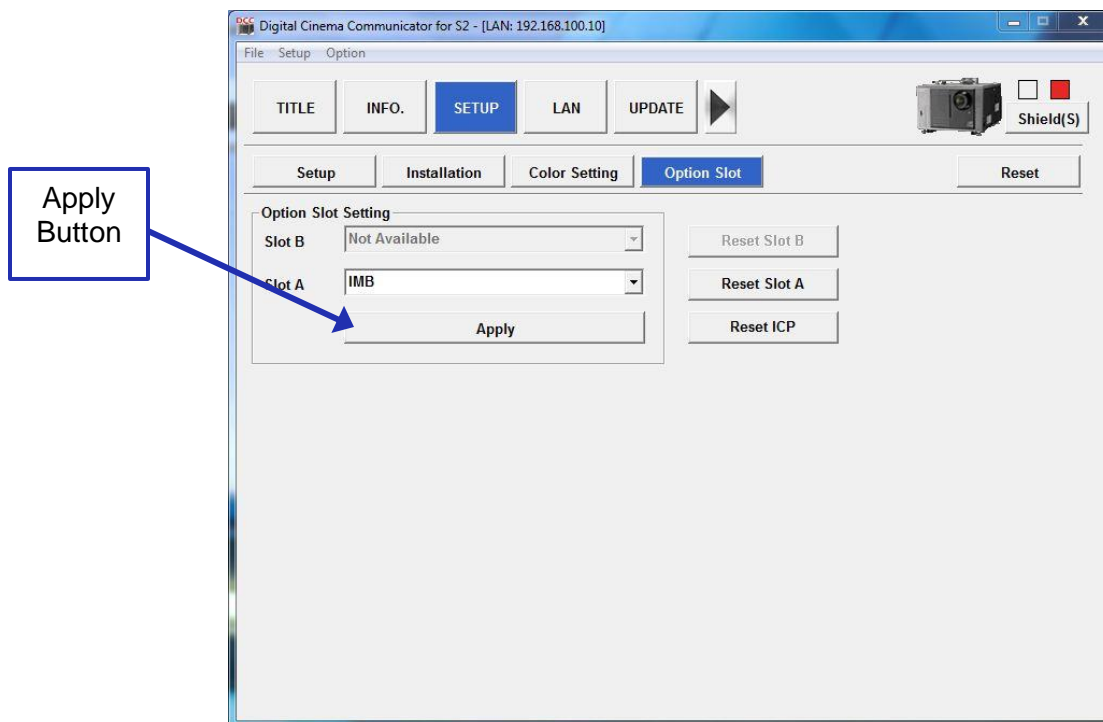

Figure 36: Option Slot Window
- In the Option Slot window, select IMB from the drop-down and click Apply (Figure 36).